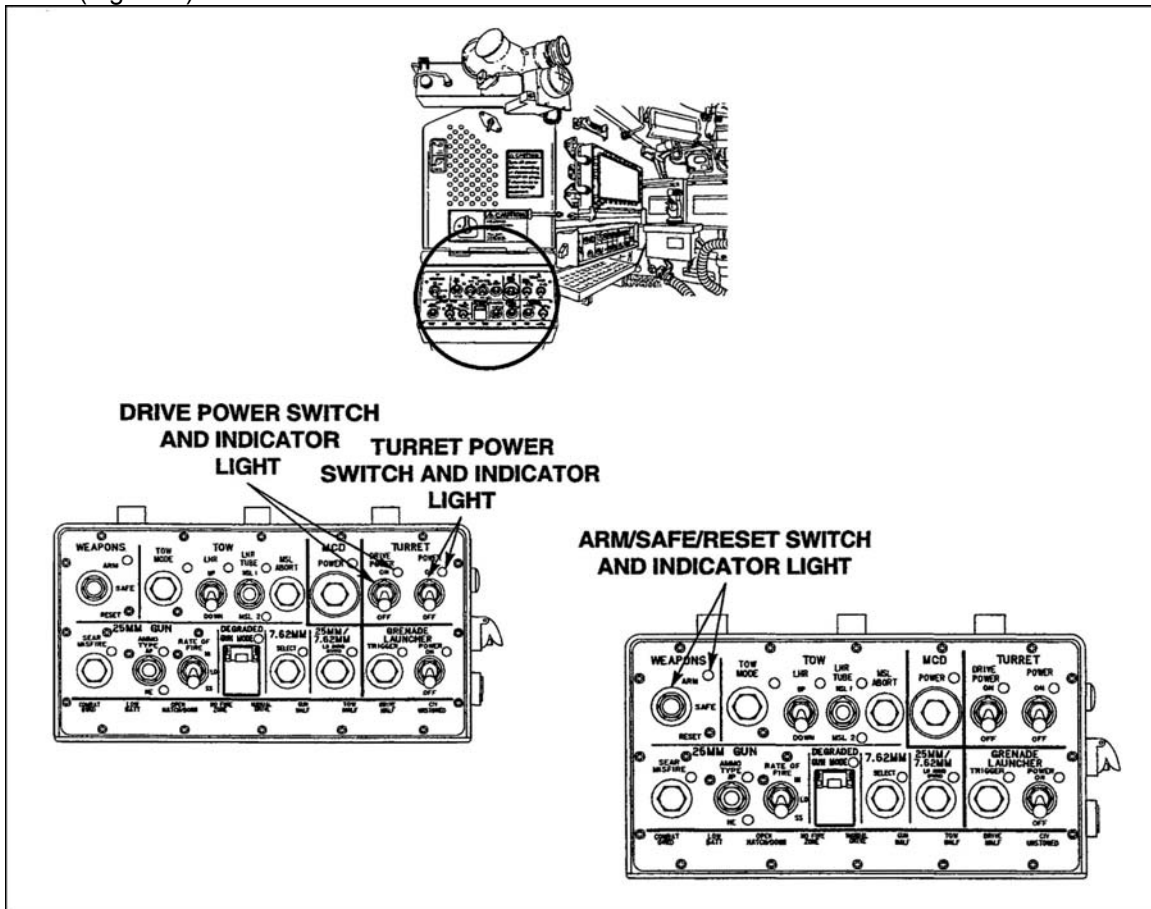

Figure 1. ARM-SAFE-RESET switch.
- a. Move the ARM-SAFE-RESET switch on the system control box (SCB) to the SAFE position (Figure 1).